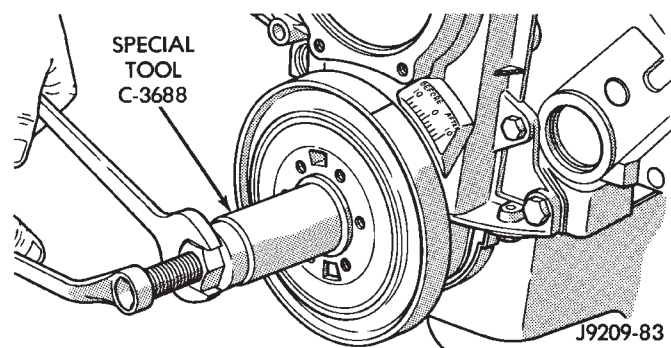

Fig. 21 Installing Vibration Damper
- (1) Position the vibration damper onto the crankshaft.
- (2) Place installing tool, part of Puller Tool Set C-3688 in position and press the vibration damper onto the crankshaft (Fig. 21).